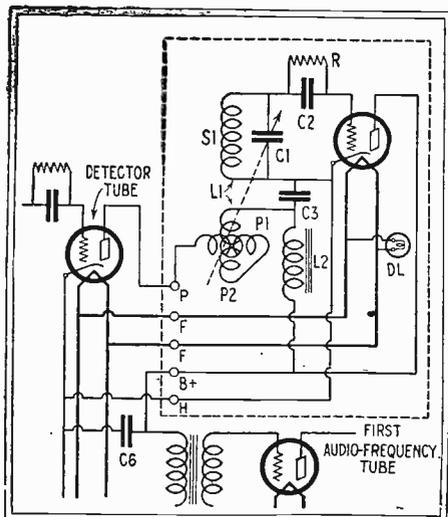

FIG. 2-A—Connections of the Grimes R.F. Booster Unit when used with a 227-type detector tube.
When employing the Booster Unit with alternating-current sets of the tuned-radio-frequency type, it is necessary to use a heater-type (227) tube in the detector and Booster circuits. Fig. 2-A shows the necessary changes in the diagram for employing this type of tube.
The method of making the required plug is shown in Fig. 2. If you have difficulty in obtaining a five-point socket which will fit into the tube base, it may be necessary to take a piece of bakelite or hard rubber and drill holes at suitable points. Prongs should be taken from an ordinary socket and fitted into the tube base to make the contact with the prongs on the tube.